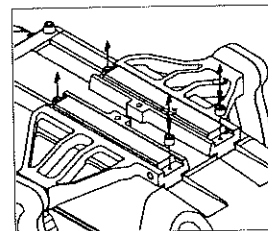

Figure 13
1. Remove the four (4) rubber foot stoppers under the VX-2000PRO housing. (Figures 13)